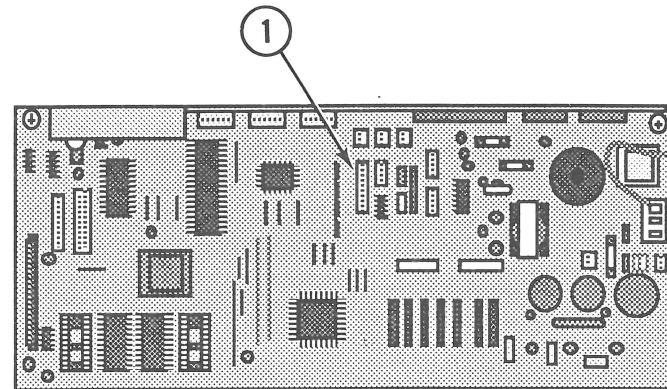

FIGURE 12
2. Disconnect the color ribbon assembly cable from main board connector CN7 (Figure 12, #1).